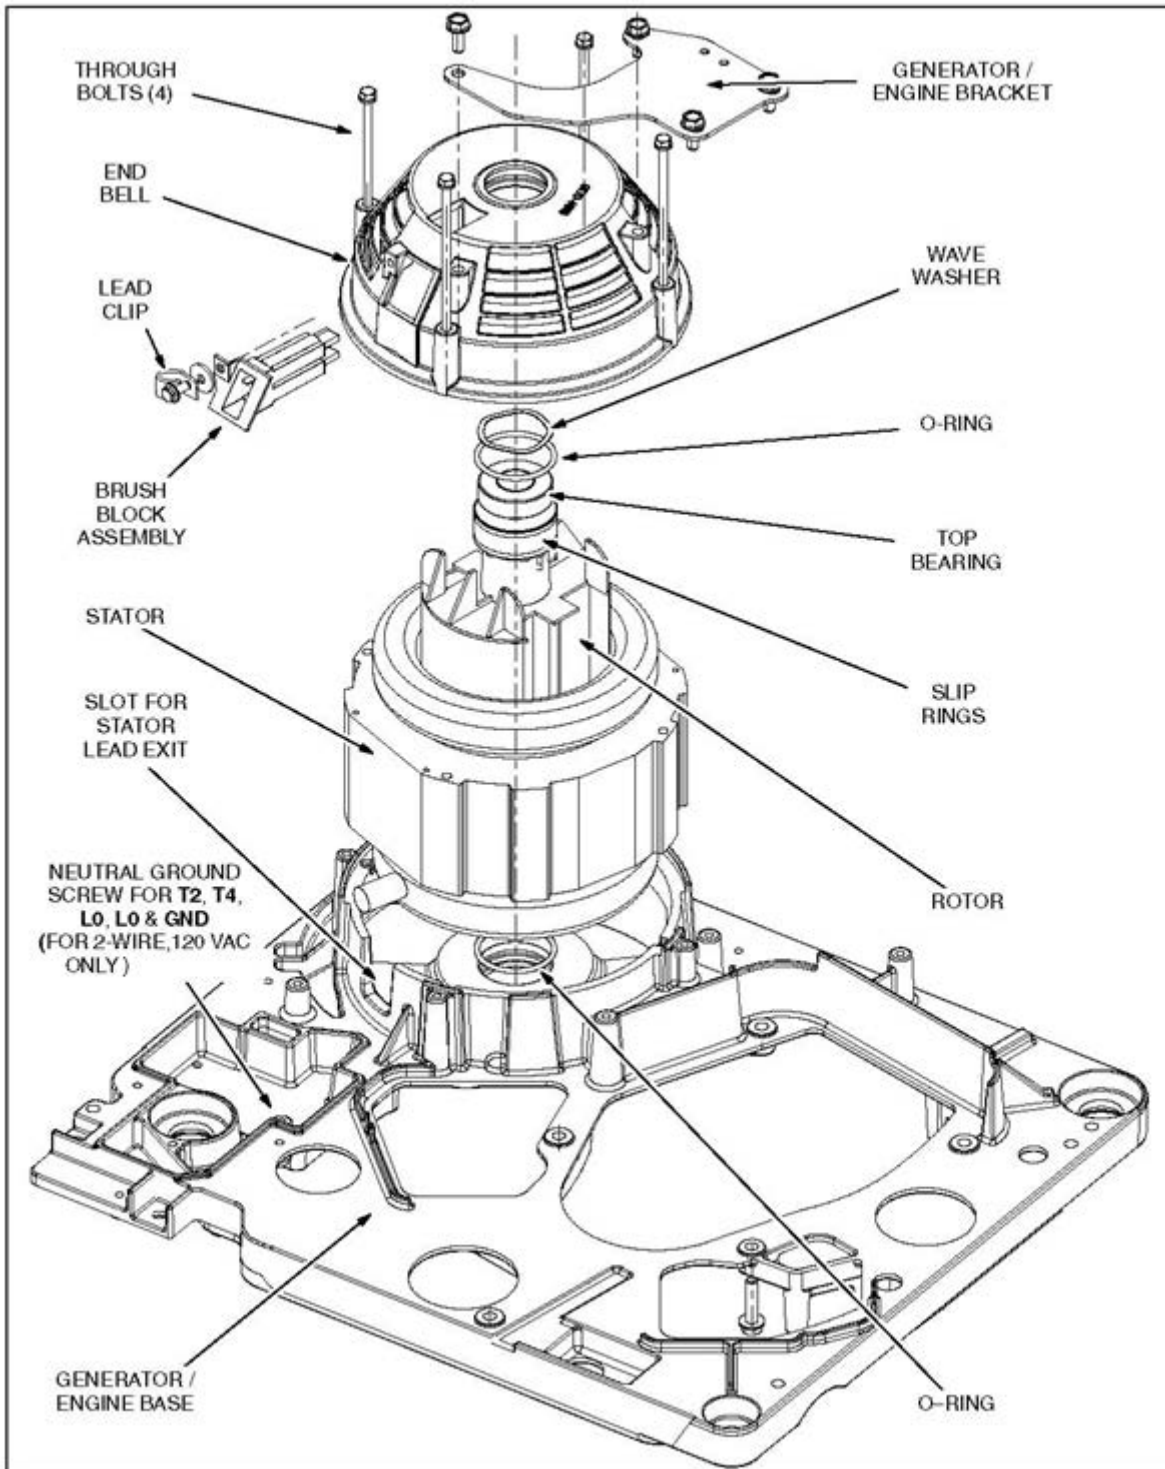

FIGURE 23. ALTERNATOR
The stator consists of steel laminations with two or three sets of windings in the lamination slots. The main windings (T1-T2, etc.) power the connected loads and the quadrature windings (Q1-Q2) supply power for the generator field. Some models have battery charging windings (B1-B2). See connection diagram in Figure 23.
Line circuit breakers (CB1, CB2, and CB3) are mounted on the control panel to protect the alternator leads and provide a means for disconnecting the alternator from the load. See the Figure 23 schematics.
6. Make sure the leads pass through the lead clip (Figure 23) to prevent strain on the terminals.